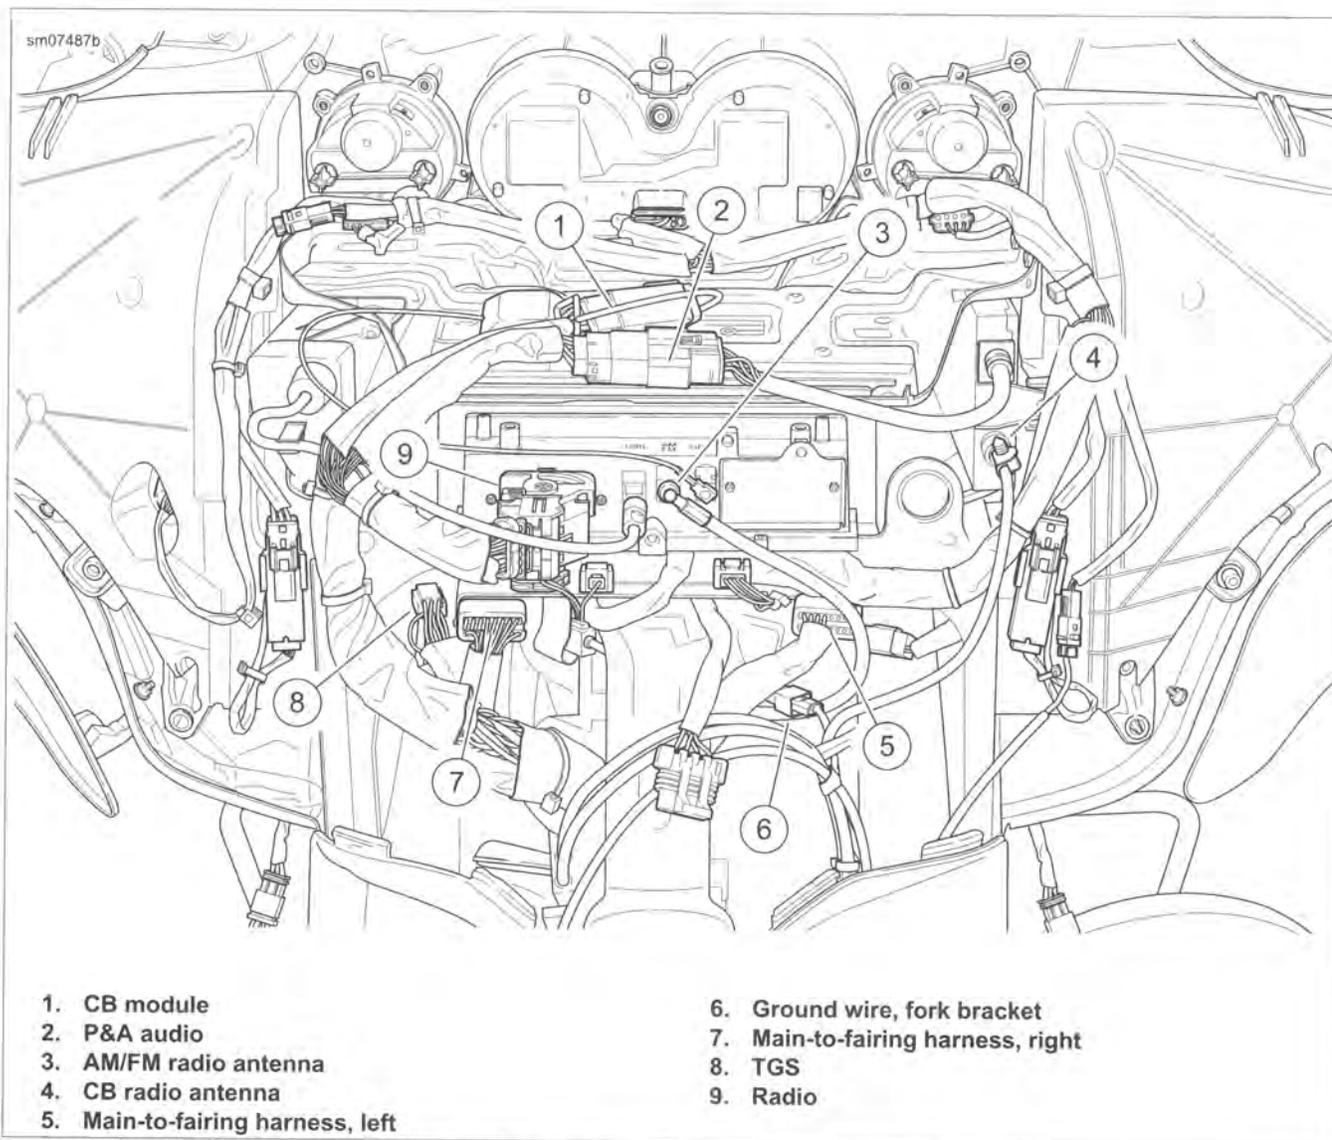

Figure 7-102. Steering Head Caddy (right side shown)
7. Release brake line retainer (1) from steering head caddy.
8. See Figure 7-102. Loosen retainer screw and pull retainer securing each steering head caddy.